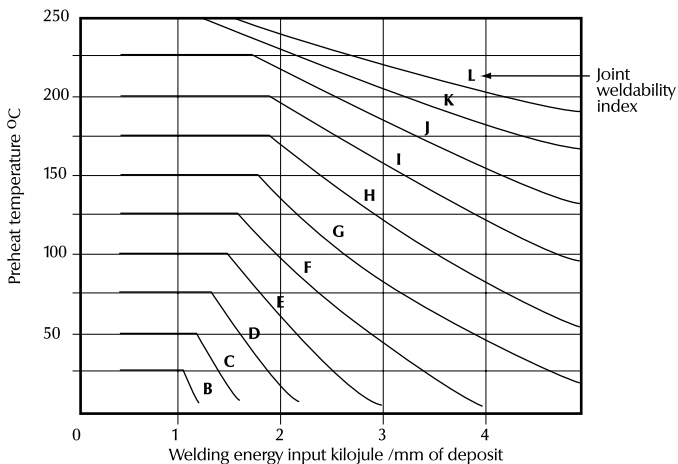
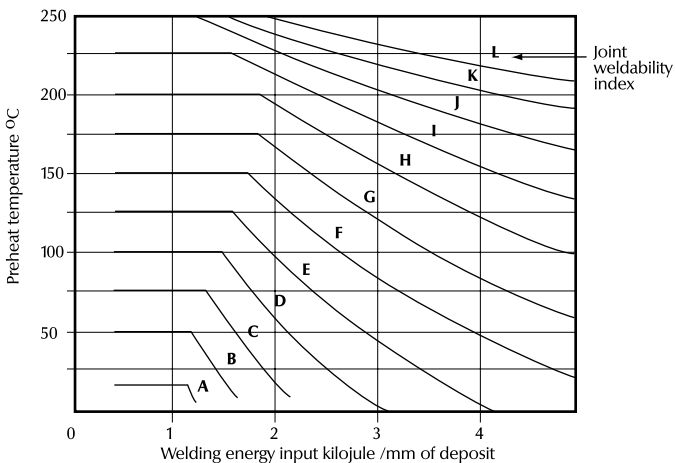

Figure 2 - Determination of preheat requirements for hydrogen controlled electrodes (EXX16, EXX18, EXX28 & EXX48) semi-automatic and automatic welding process.
Figure 3 - Determination of preheat requirements for Manual metal-Arc Welding with other than hydrogen controlled consumables.
4. Cross reference the joint weldability index, with the expected welding energy input (in KJ/mm) on Figure 2\* or 3\* to calculate the appropriate preheat temperature.
\*Note: if a **hydrogen controlled welding consumable** is to be used, refer to Figure 2; if a **non-hydrogen controlled welding consumable** is to be used, refer to Figure 3.
3. Preheat temperatures should be determined in accordance with the requirements of Figure 2 or 3 with the preheat temperature being maintained between subsequent weld passes.